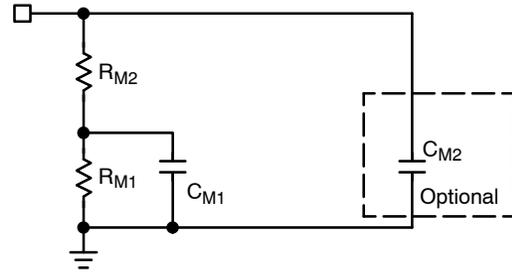

Figure 6. Modified V_M Pin Structure
- Modify the skip mode operation, which can help reducing the audible noise. Refer to Figure 6, the modified V_M pin structure. By inserting the R_{M2} , part of the ripple on the inductor current join the modulation